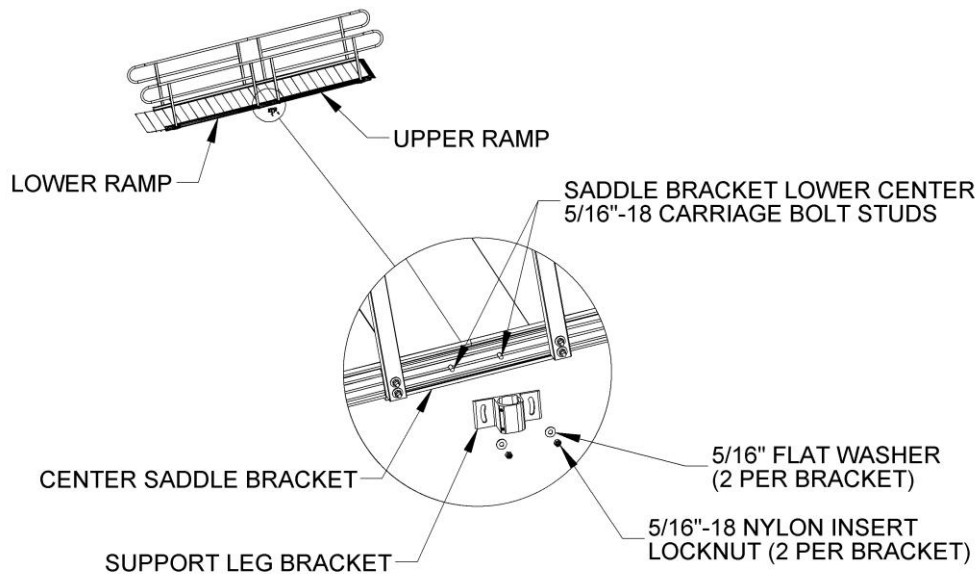

FIG. 4.5
- 4.3.1. Install the Support Leg Bracket ("bracket"), included with the Universal Ramp to Ramp Connector, on the center studs of the Center Saddle Bracket (ramp connector included with Universal Ramp to Ramp Connector) with the round hole on the upper stud and the curved slot over the lower stud (FIG. 4.5).